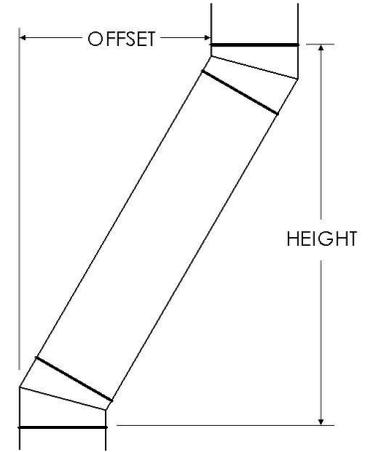

Figure 18 - Chimney Cap
- Align end ring of Chimney Cap with male end of last chimney pipe section, press together until seated completely and rotate 1/8th turn clockwise. See Figure 18.